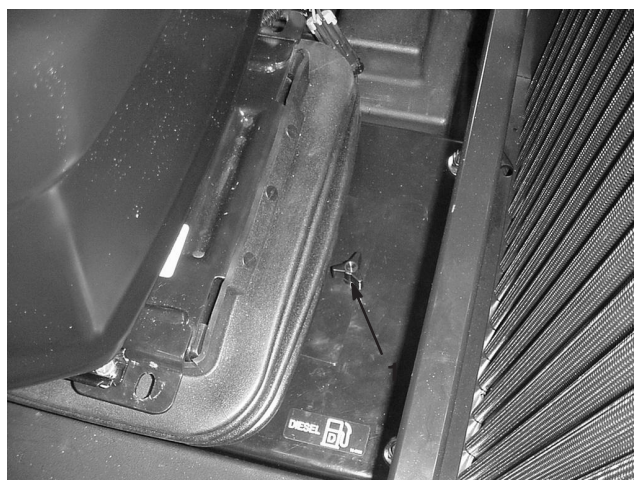

Figure 25
1. Loosen the knob and remove the access cover at the rear of the seat mounting plate (Fig. 25).